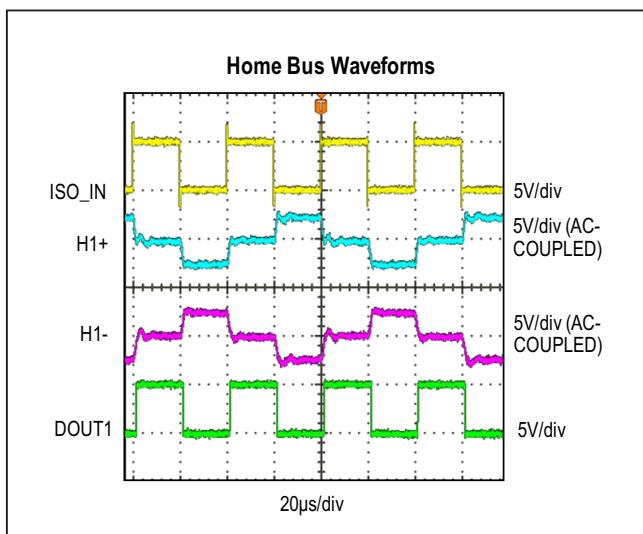

Figure 1. MAX22088 EV Kit Waveforms at 50kbps
- 18) Verify that all signals are as shown in Figure 1.